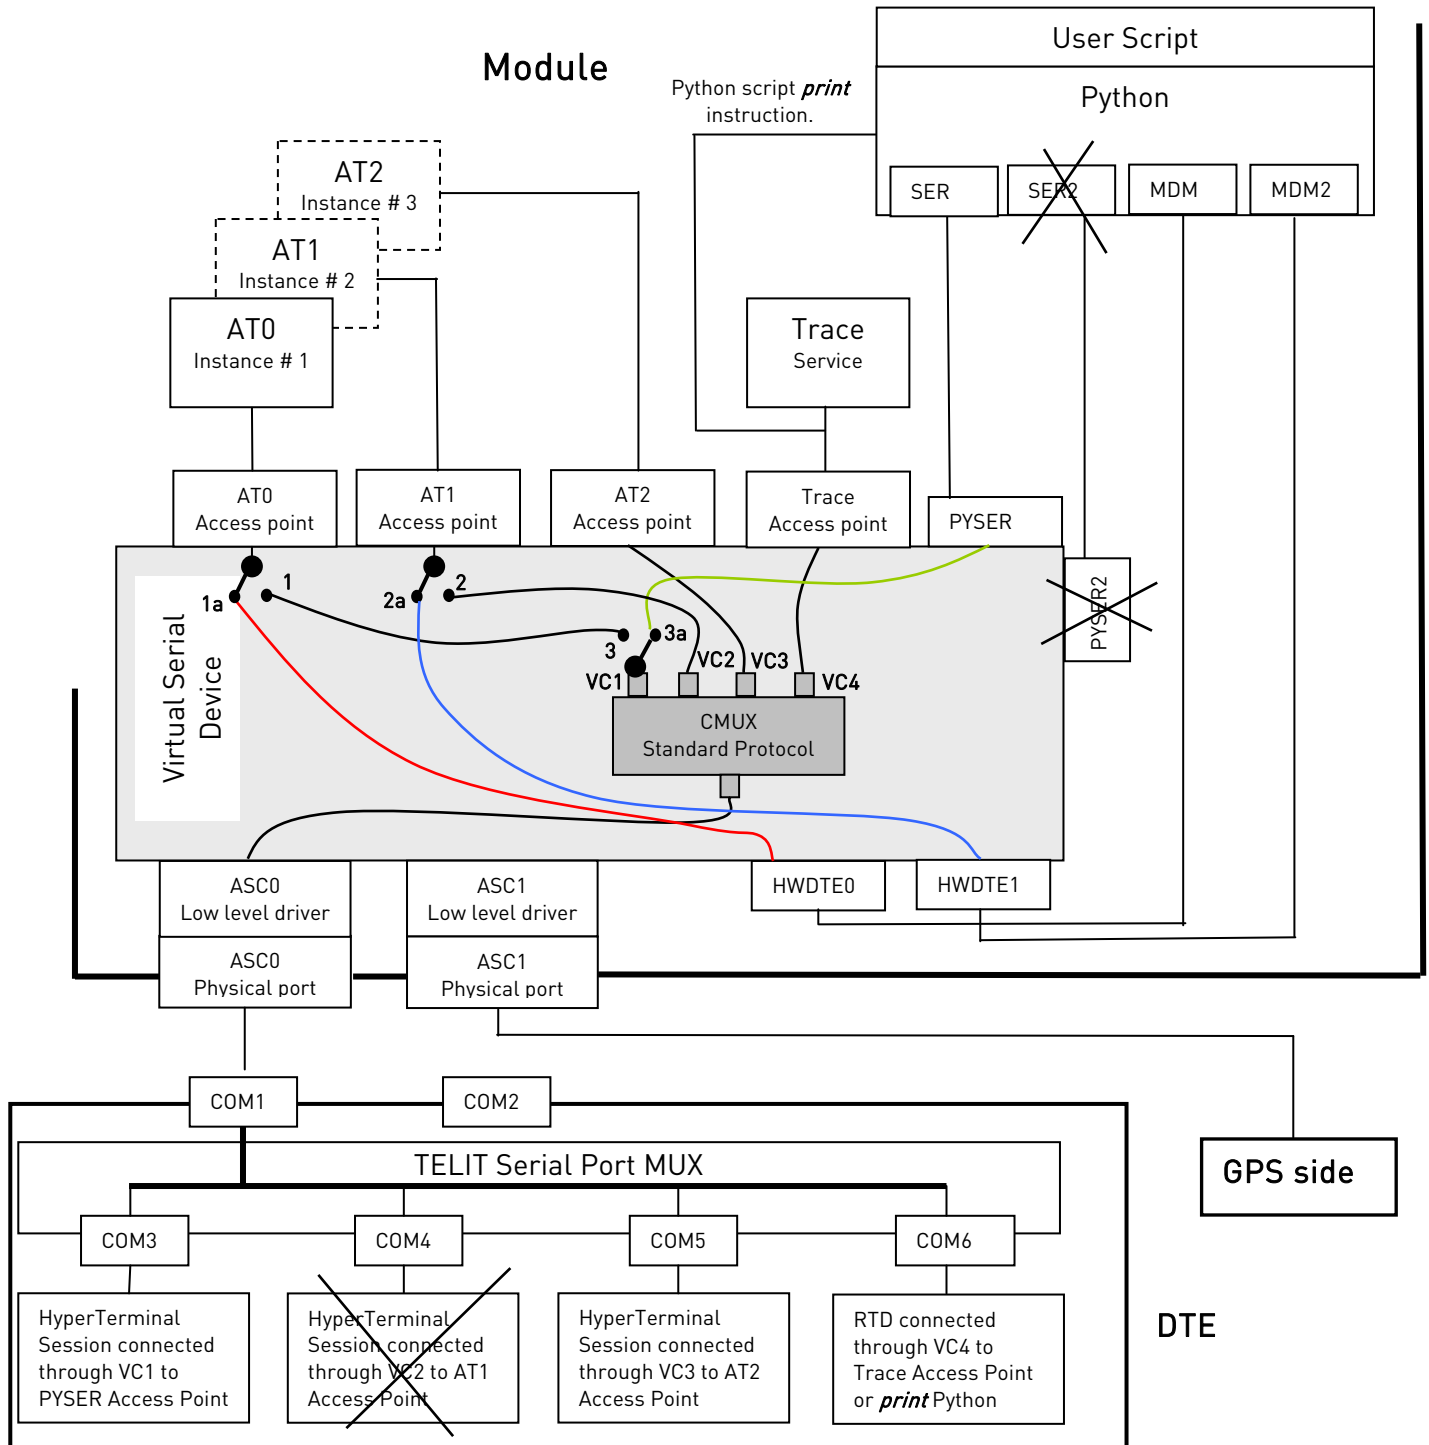

fig. 10: CMUX configuration and Python
- After the initial CMUX configuration is established, the Python Script runs the following instructions if they are present, see fig. 10:
- Enter AT#EXECSRC to start the Python Script. It is suggested to use ASC0 serial port and AT2 AT parser (instance # 3), this connection path remains always available, see fig. 10.